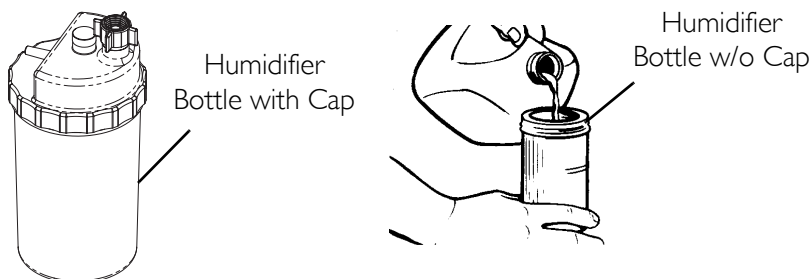
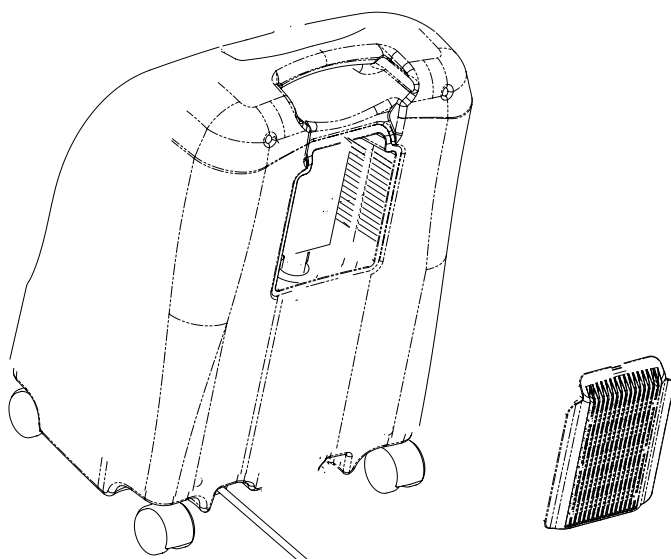

FIGURE 5.1 Filling the Humidifier
FIGURE 5.2 Humidifier Bottle Adapter
NOTE: For this procedure, refer to FIGURE 5.1, FIGURE 5.2 on page 19, FIGURE 5.3 on page 20.
3. Insert a flathead screwdriver in the plate groove on the top edge of the filter access door and gently pry the filter access door off (FIGURE 5.2).
4. Pull up and remove the humidifier bottle adapter (FIGURE 5.2).